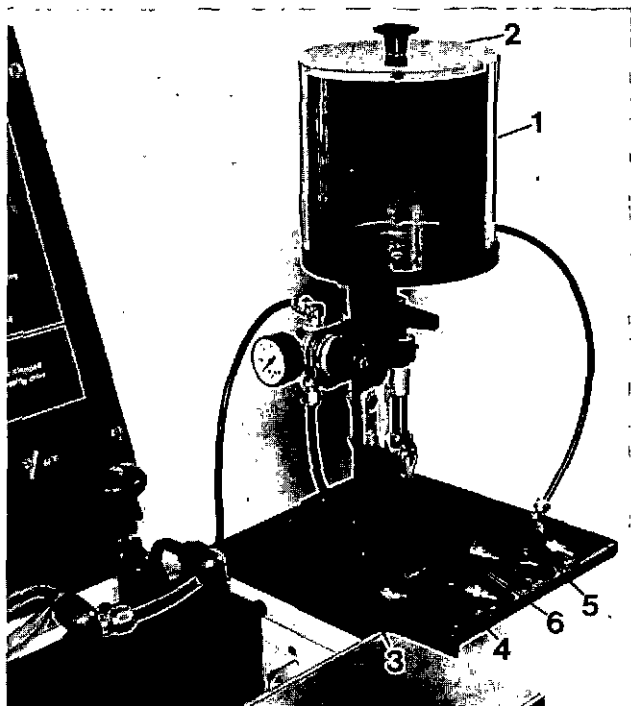

Fig. 4-17. 3376350 Injector Cup Spray Tester
2. The spray tester is designed to make sure that all of the spray holes are open and spraying in a uniform pattern, Fig. 4-17.
2. Remove the clamp cylinder "unclamp" pressure fitting from the top of the clamp cylinder, (Ref. arrow, Fig. 4-17). Use R drill (.339 inch) and 1/8 NPT tap to drill and tap the side of the pressure fitting.
1. Select the appropriate injector cup spray adapter for the type of cup to be tested. Four adapters are included for testing: Standard PTD, Small V, K, and Flange Injector Cups, Ref. 3 thru 6 Fig. 4-17.
7. Start the injector test stand and adjust the pressure regulator on the tester to show 8 to 10 psi on the pressure gauge, Fig. 4-17.